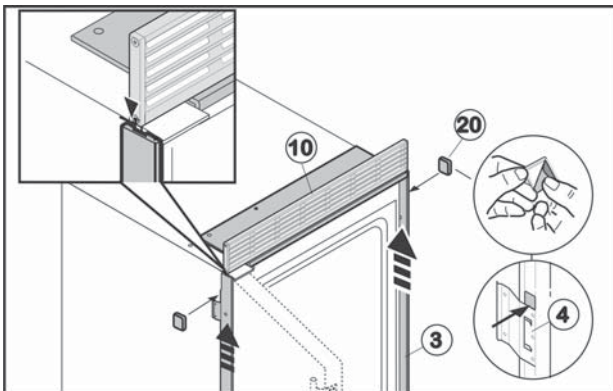

*Fig. 34*
- ▶ Position end strip *Fig. 34 (10)* over the installation contour *Fig. 34 (5)* and align it such that the holes in ventilation grille and installation contour are above each other.
- ▶ Screw end strip *Fig. 34 (10)* to installation contour *Fig. 34 (5)* from below using three screws *Fig. 34 (11)*.